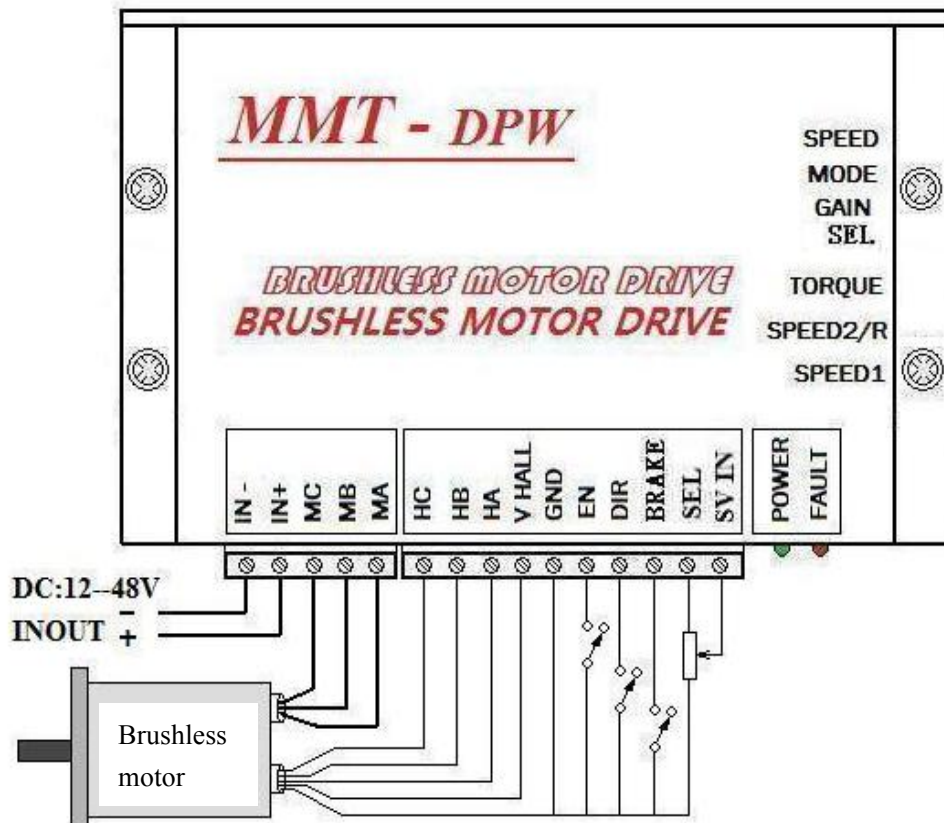

Figure 2
**VI: Wiring instruction on driver's terminals and schematic drawing of terminal functions: see Figure 2**